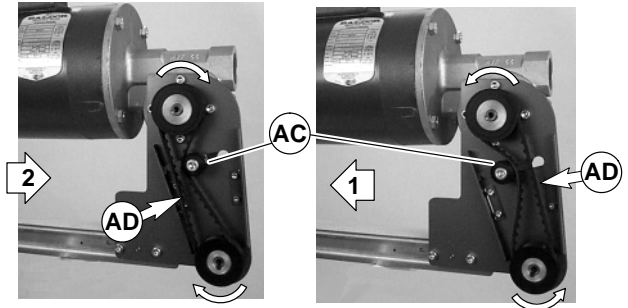

Figure 12
10. Depending on direction of conveyor belt travel (1 or 2 of Figure 12), position belt tensioner (AC) as shown. Tension belt to obtain 0.125" (3 mm) deflection for 1.0 lb (456 grams) of force at belt mid-point (AD). Tighten tensioner screw to 103 in-lb (12 Nm).
3. Depending on direction of conveyor belt travel (1 or 2 of Figure 12), position belt tensioner (AC) as shown. Tension belt to obtain 0.125" (3 mm) deflection for 1.0 lb (456 grams) of force at belt mid-point (AD). Tighten tensioner screw to 103 in-lb (12 Nm).
5. Depending on direction of conveyor belt travel (1 or 2 of Figure 12), position belt tensioner (AC) as shown. Tension belt to obtain 0.125" (3 mm) deflection for 1.0 lb (456 grams) of force at belt mid-point (AD). Tighten tensioner screw to 103 in-lb (12 Nm).